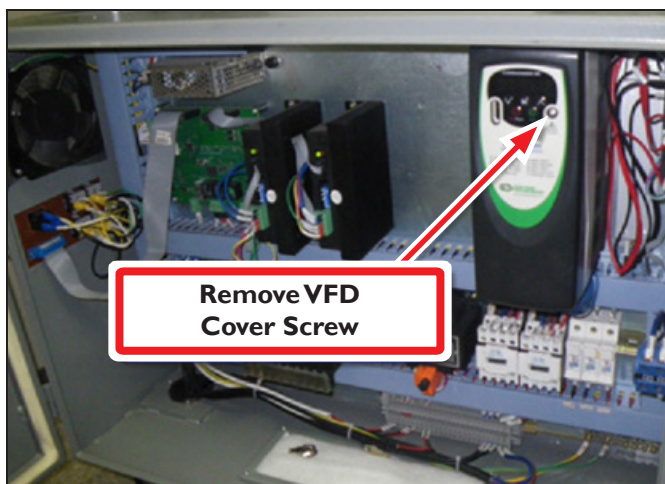

Figure 8.10
2. Locate the VFD in the electrical cabinet (see **Figure 8.10**). Using a Phillips screwdriver, remove the VFD cover.